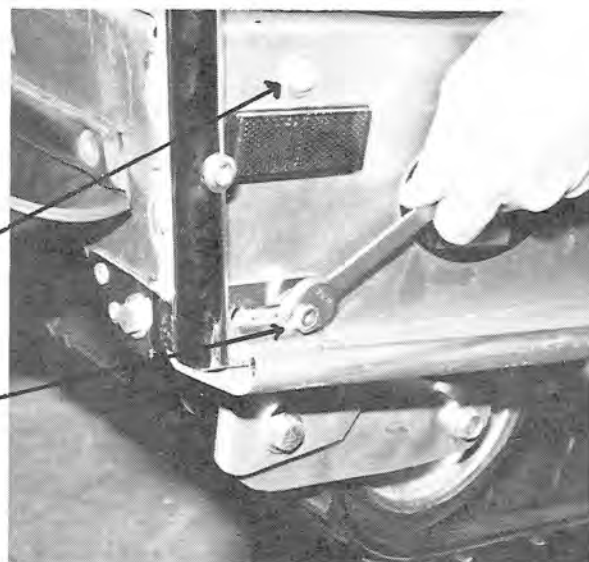

FIG. 5-2
6. To make adjustment, loosen the two tension pivot bolts and the two sliding nuts (See Fig. 5-2). Either tighten or loosen the adjustment bolts until proper adjustment is measured on both "Track Jacks" (green ring aligned with lip on cylinder).